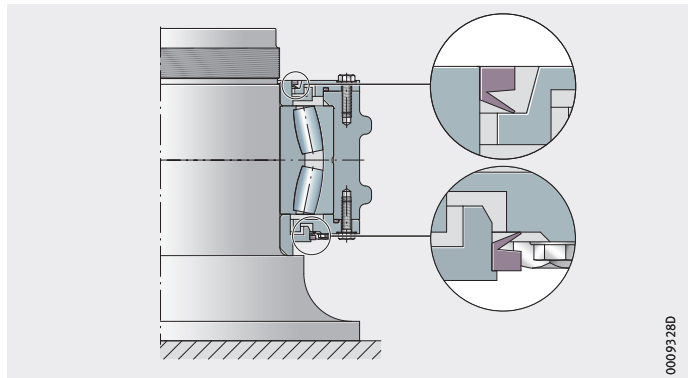

Figure 15
- ▶ Align the V rings correctly to the labyrinth rings (seal lip towards the housing), *Figure 15*.